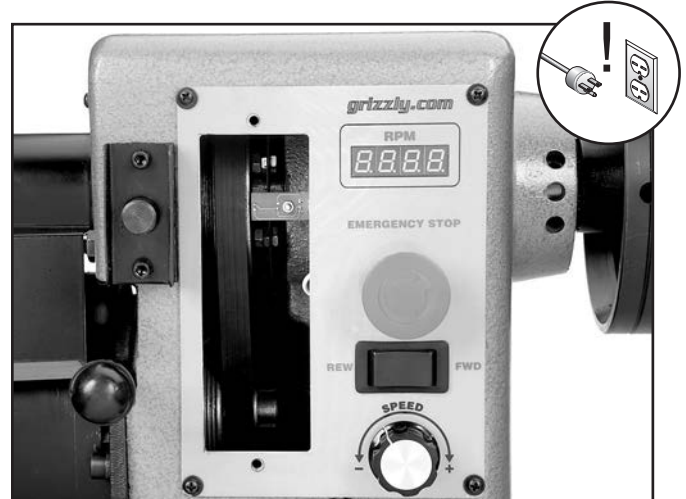

Figure 32. Belt access panel removed.
2. Remove the front belt access panel (see **Figure 32**).